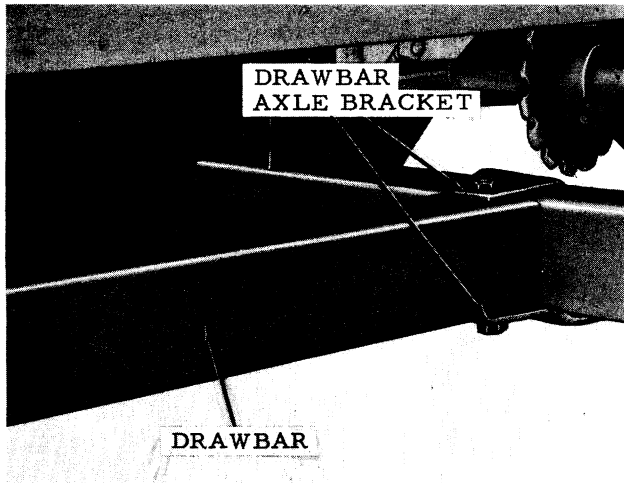

Figure 7. Drawbar Bracket
2. Pivot the rear of the drawbar into the axle bracket. See Figure 7.
3. Anchor the drawbar at the rear with a 5/8 x 5" N. F. hex. bolt and flexloc nut. See Figure 7.